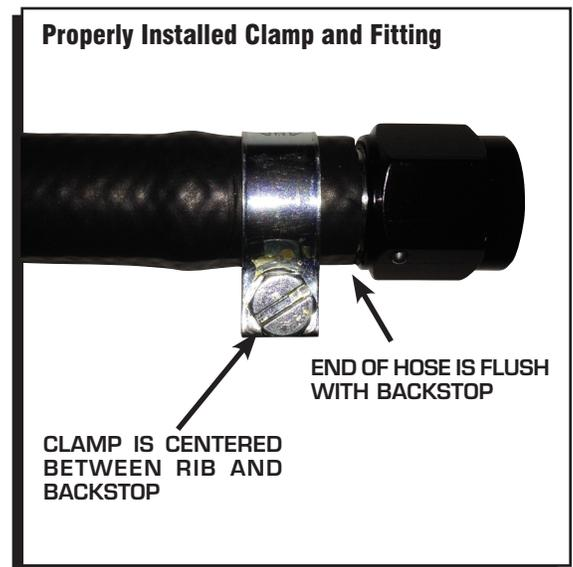

Figure 13 Installed Fitting and Clamp.
4. With the fitting anchored securely, push the hose over the fitting until it bottoms against the backstop. Center the clamp between the rib and backstop before tightening (Figure 13).